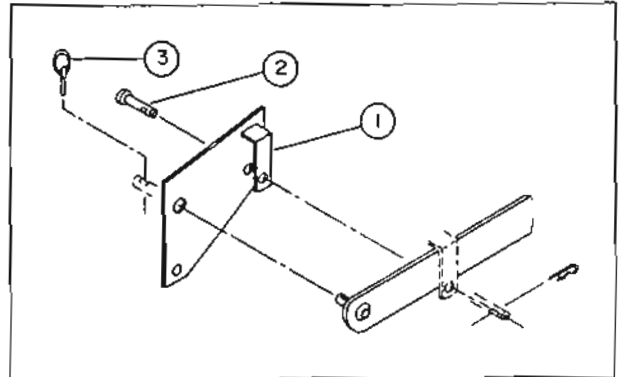

FIGURE 1
- b) Install lift bracket (fig.1, item 1) on tractor pivot pin and on lower right hand link as in figure 1. Secure with a $17/32"$ x $2\ 1/8"$ pin (fig.1, item 2) and a 3mm x 65mm hair pin. Secure using the $3/8"$ lynch pin (fig.1, item 3) (with flat side) provided.